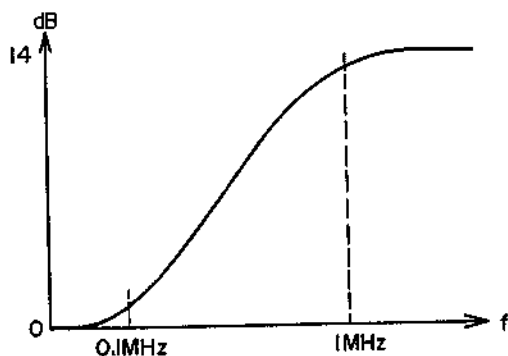

Fig. 57
After the non-linear emphasis, the signal passes Clamp, Pre-emphasis and Clip and enters FM modulator. The clamp is to make the carrier frequency of SYNC TIP constant. Then, the ordinary pre-emphasis is applied. This curve is stipulated by the VHS specification and is shown in Fig. 57. This is determined by C and R connected to Pin ⑩ of AN6310.